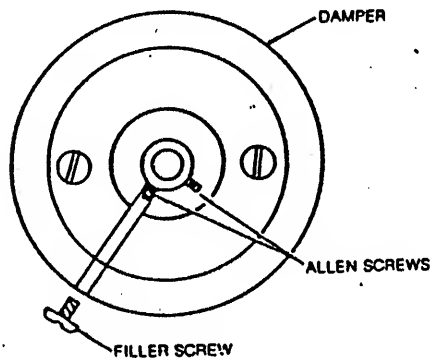

Figure 3-31
8. Insert a .05 inch (1.27 MM) allen wrench into hole and loosen screw. (See Figure 3-31).